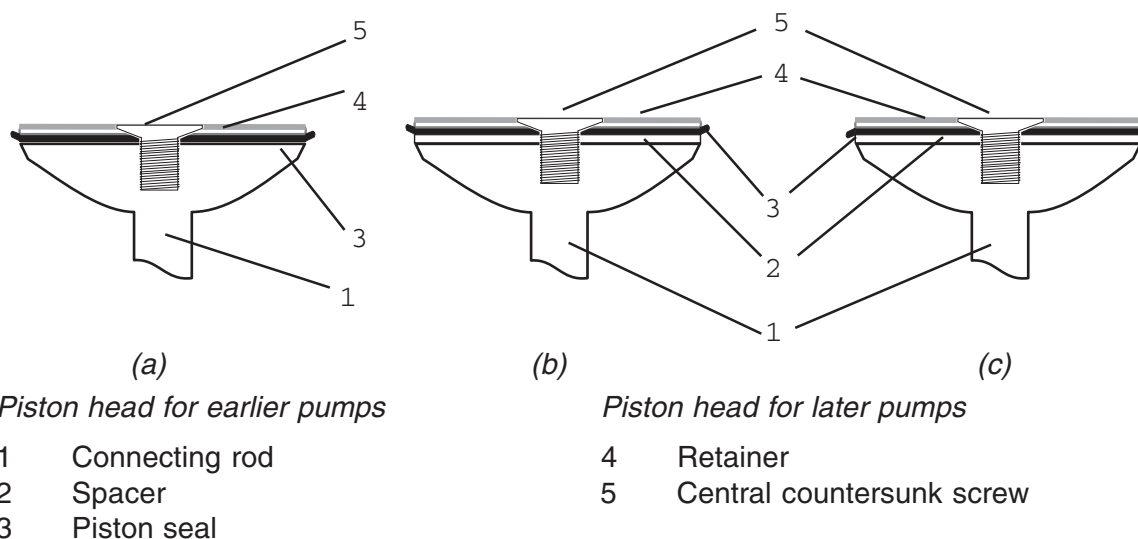

Fig. 2-7 Piston head
- (3) Rotate by hand the pump to access the piston head. Unscrew and remove the central countersunk screw (Fig. 2-7, item 5), remove the piston seal (Fig. 2-7, item 3) and retainer (Fig. 2-7, item 4).
- (4) Replace the preformed piston seal (Fig.2-7, item 3) on the retainer.
Note: *The piston seal faces outwards on the pressure piston head and inwards on the vacuum piston heads. On earlier units with cylinders of the style shown in (Fig. 2-6, item 1a) all seals point outwards [see Fig. 2-7 (a)].*
- (5) Apply Loctite grade 222 to the threads of the central countersunk screw (Fig. 2-5, Item 5). Locate the assembled piston seal (Fig. 2-7, Item 3) and retainer (Fig. 2-7, Item 4) on the connecting rod (Fig. 2-7, Item 1) and secure with the central countersunk screw (Fig. 2-7, Item 5).